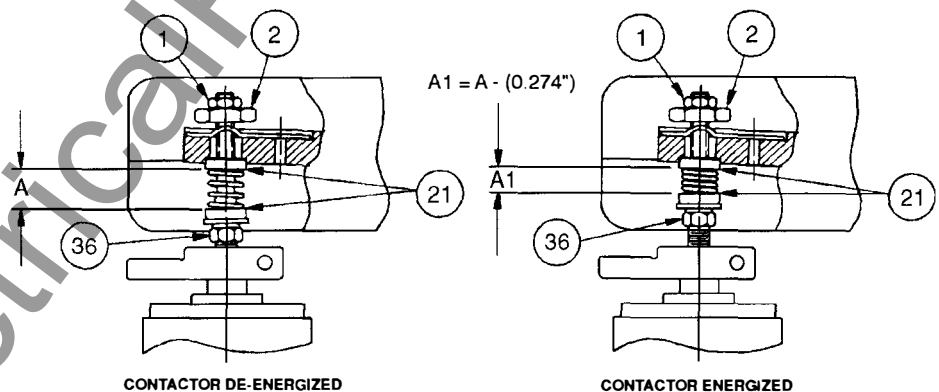

Figure 6 Tip Pressure Adjustment
1. Place interrupter assembly (item 23) into contactor by putting top of interrupter assembly behind the line bus (item 3). Seat spring cup (item 21) in recess at top of contactor.
4. Install spring washer (item 4) and hex nut assembly (item 20) connecting shunt to line bus.
5. Install cap screw (item 27) and two washers (item 5 & 6) to bottom of interrupter assembly.
6. Install gap adjustment nut (item 2) on top of interrupter assembly and turn nut until it rests about halfway down the shaft. Install jam nut (item 1) until it rests above the adjusting nut, but not touching the adjusting nut.
7. With contactor deenergized, turn hex nut (item 36) until contact spring (item 22) is firmly seated between spring cups (item 21) but not compressed. Measure distance (A) between spring cups (refer to Figure 6).
14. For reinstallation of a used interrupter, **adjust gap adjustment nut (item 2) to produce a gap equal to the one recorded before removing interrupter assembly.** Measure between points as shown in Figure 6 .